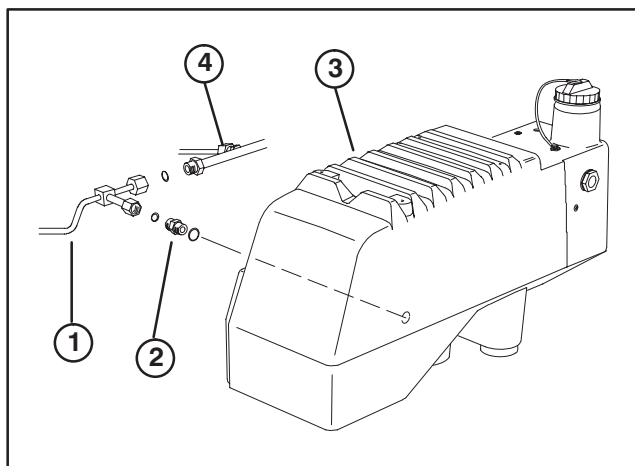

Figure 3
22. Disconnect rear of steering return line from check valve in hydraulic tank and at from rear return line (Fig. 3).